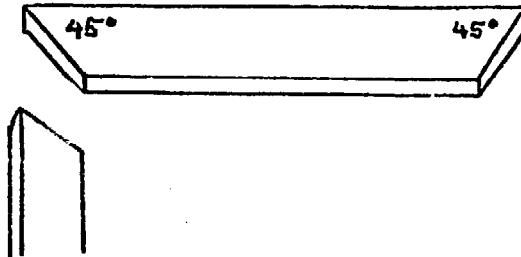

Figure 11
- 14: FRAMES FOR DRYER RACKS:** Measure interior dimensions of dryer if your lumber is not standard dimensions. For standard dimensions, the frames will be 18" wide and 46" on the long side. Cut 12 pieces of each of these lengths with 45 degree angle cuts. Use a mitre box if precise power tools are not available. (Figure 11.) Join corners with "scotch joints" or equivalent above and below while squaring the corner with a framing square.